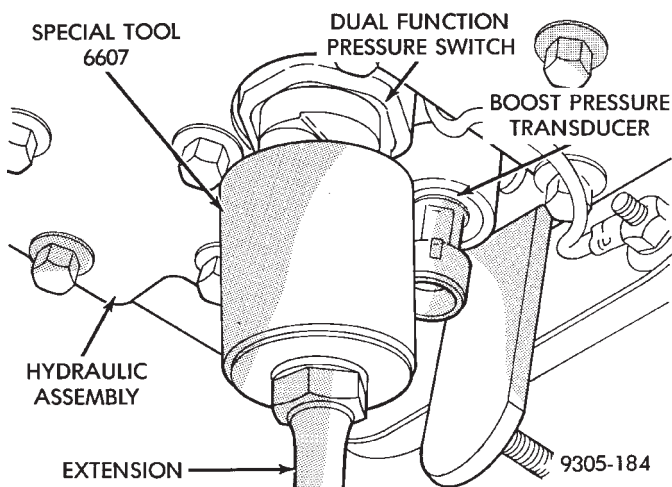

Fig. 16 Remove And Install Dual Function Pressure Switch
(4) Using a long extension and Socket, Special Tool 6607, remove dual function pressure switch from bottom of hydraulic assembly (Fig. 16)
(2) Install Dual Function Pressure Switch (Fig. 16) into hydraulic assembly by hand, until O-ring is fully seated into hydraulic assembly. Then torque dual function pressure switch, into hydraulic assembly, using Socket, Special Tool 6607, to 12 N•m (106 in. lbs.).